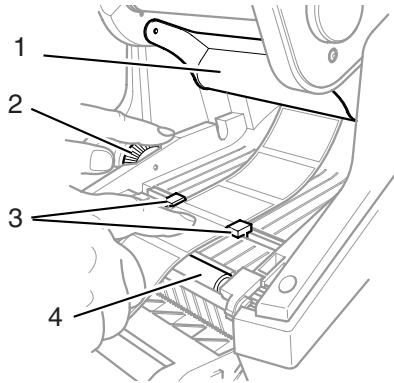

Figure 24, Tear-Off Mode
2. Position the label strip between the label guides (**Figure 24, 3**) and turn the adjustment wheel (**Figure 24, 2**) to snug the guides just up against the label strip. Be careful not to tighten the guides against the label strip enough to crimp the label strip.